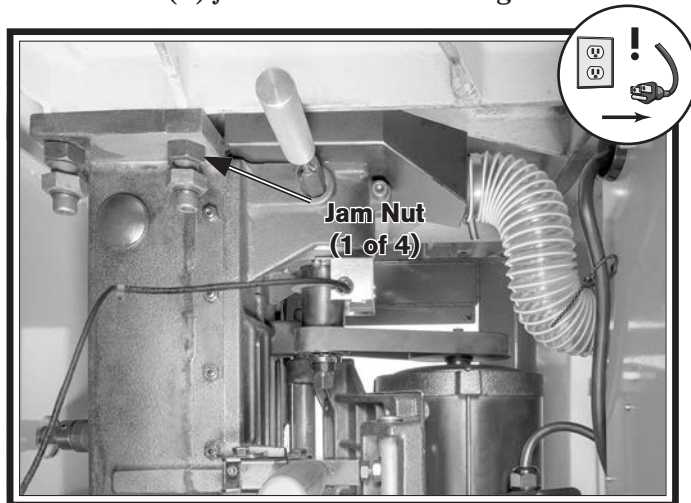

Figure 101. Location of spindle tilt jam nuts.
7. Loosen (4) jam nuts shown in **Figure 101**.